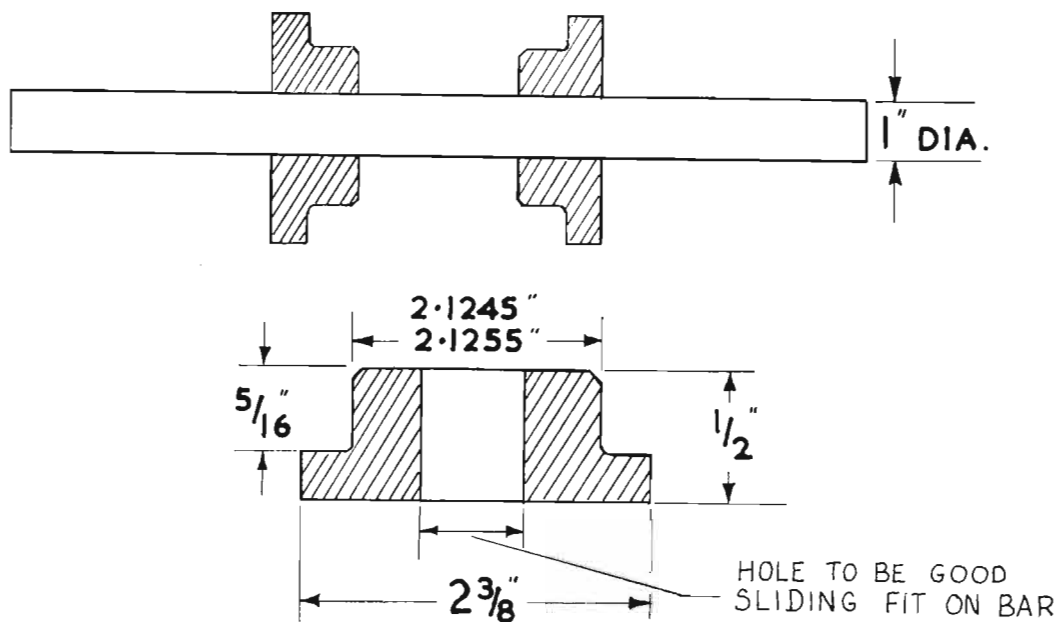

FIG. D.2. *Steering head mandrel.*
- One mandrel and two blocks, as in Fig. D.2.